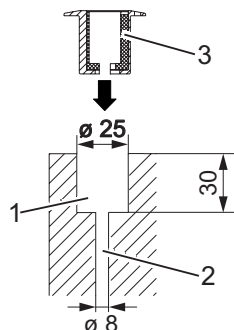

Fig. 26: Borehole for the eccentric bushing
9. Drill the hole (Fig. 26/1) with $\varnothing 25$ mm at least 30 mm deep.
10. Drill the hole (Fig. 26/2) with $\varnothing 8$ mm for the fastening of the eccentric bushing with wall plugs or similar.
11. Insert the eccentric bushing (Fig. 26/3) and screw it in place using suitable mounting material.